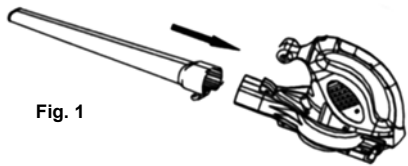

Fig. 1
2. Slide blower tube onto the blower outlet (Fig. 1)